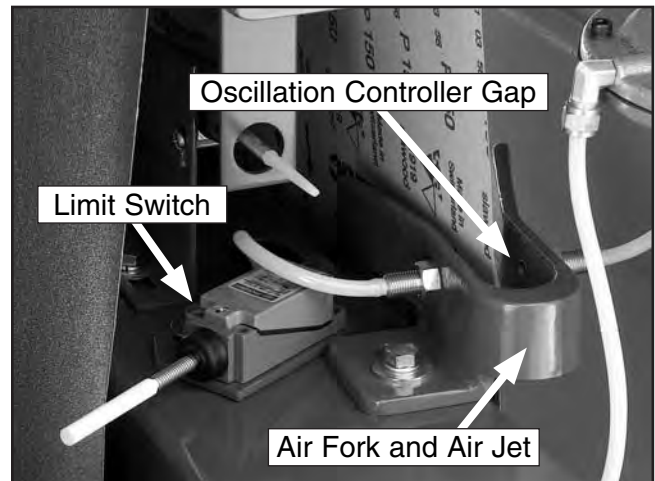

Figure 25. Oscillation components.
3. An adequate stream of air through the air fork gap (**Figure 25**) is essential for proper oscillation. If the jet of air is weak through the gap, the belt will track away from the controller and into the limit switch on the opposite end of the roller. The pivot action of the upper roller, and the resulting oscillation of the belt, are dependent upon adequate airflow through the air fork gap.